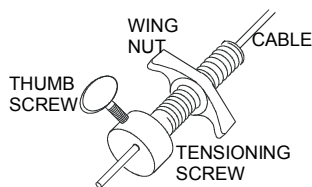

Figure 75
4. Feed each bare cable end into the hole at the threaded end of the cable tensioning screw (see **Figure 75**).
6. Whilst holding the cable tensioning screw in the box pull the cable taught and, without releasing the tension, tighten the thumb screw firmly (see **Figure 75**). Repeat this procedure with the other cable.